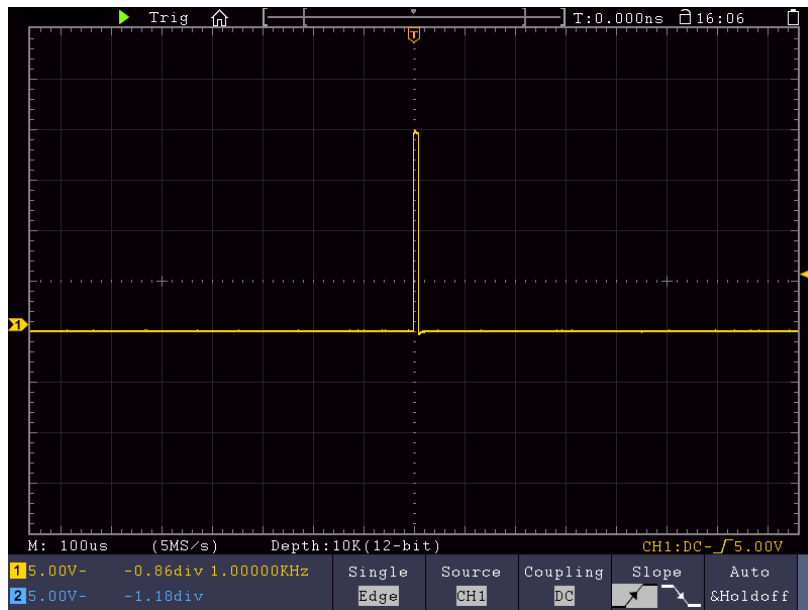

Figure 8-3 Capturing a Single Signal
- (2) Adjust the **Vertical Scale** and **Horizontal Scale** knobs to set up a proper vertical and horizontal ranges for the signal to be observed.
- (3) Push the **Acquire** button to display the Acquire menu.
- (4) Select **Acqu Mode** in the bottom menu. Select **Peak Detect** in the right menu.
- (5) Push the **Trigger Menu** button to display the Trigger menu.
- (6) Select the first menu item in the bottom menu. Select **Single** in the right menu.
- (7) In the left menu, select **Edge** as the mode.
- (8) Select **Source** in the bottom menu. Select **CH1** in the right menu.
- (9) Select **Coupling** in the bottom menu. Select **DC** in the right menu.
- (10) In the bottom menu, select **Slope** as  (rising).
- (11) Turn the **Trigger Level** knob and adjust the trigger level to the roughly 50% of the signal to be measured.
- (12) Check the Trigger State Indicator on the top of the screen, if it is not Ready, push down the **Run/Stop** button and start acquiring, wait for trigger to happen. If a signal reaches to the set trigger level, one sampling will be made and then displayed in the screen. By using this approach, a random pulse can be captured easily. For instance, if we want to find a burst burr of high amplitude, set the trigger level to a slightly higher value of the average signal level, push the **Run/Stop** button and wait a trigger. Once there is a burr occurring, the instrument will trigger automatically and record the waveform during the period around the trigger time. By turning the **Horizontal Position** knob in the horizontal control area in the panel, you can change the horizontal triggering position to obtain the negative delay, making an easy observation of the waveform before the burr occurs (see *Figure 8-3*).